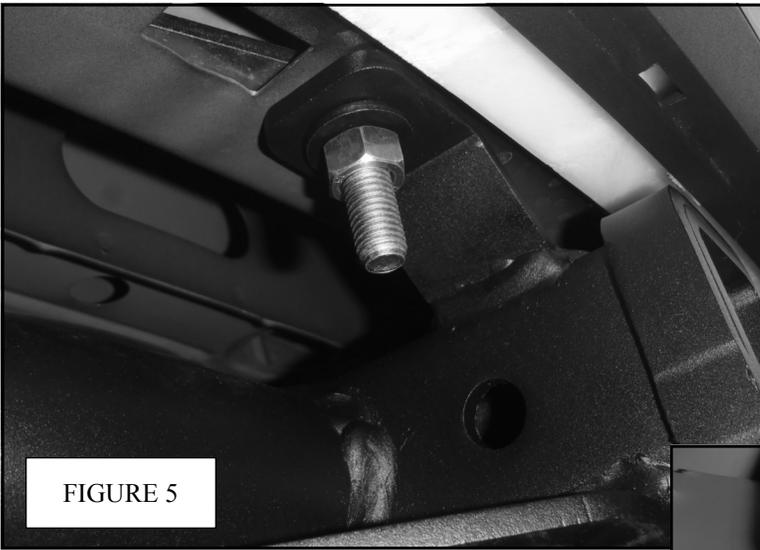

FIGURE 5
6. At the center mount, fasten with the remaining M12 hex cap screws split lock washers and lock washer. If stud plates are installed, use the supplied M12 hex nuts, split lock washers, and flat washers. Do not fully tighten at this time. FIGURE 5, 6